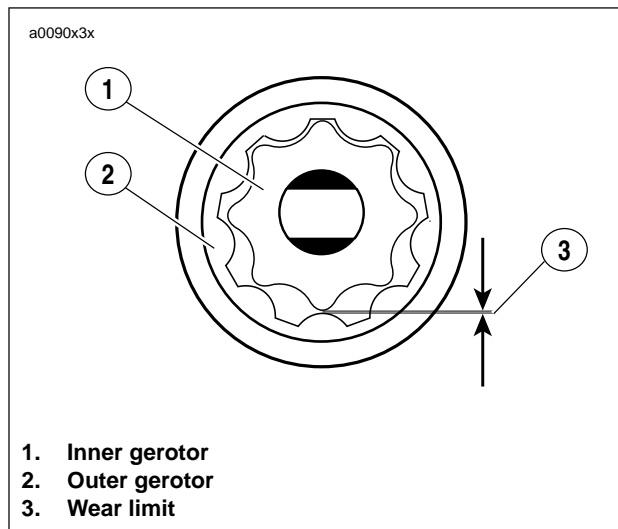

Figure 3-97. Gerotor Wear Limits
2. See Figure 3-97. Inspect both gerotor sets for wear.